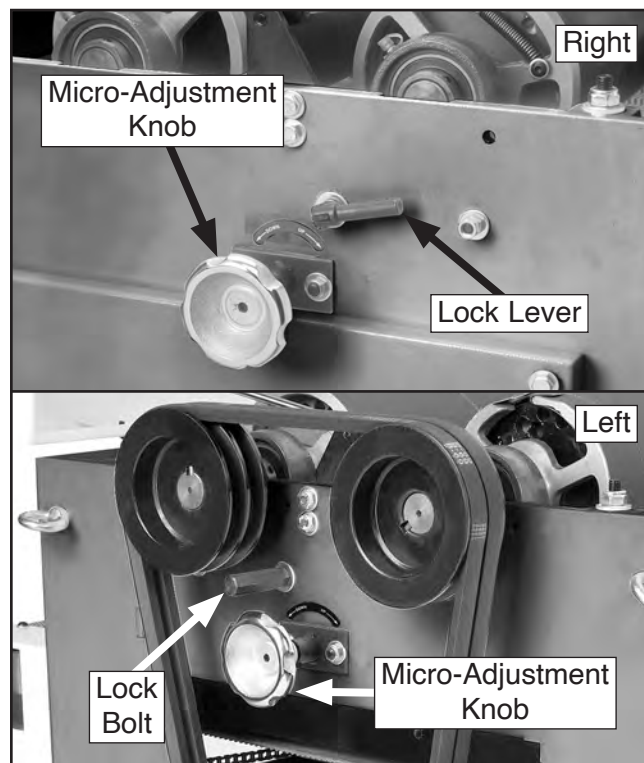

Figure 66. Location of rear sanding drum micro-adjustment knobs and locks.
5. Loosen lock lever and lock bolt (see **Figure 66**) at ends of rear drum.